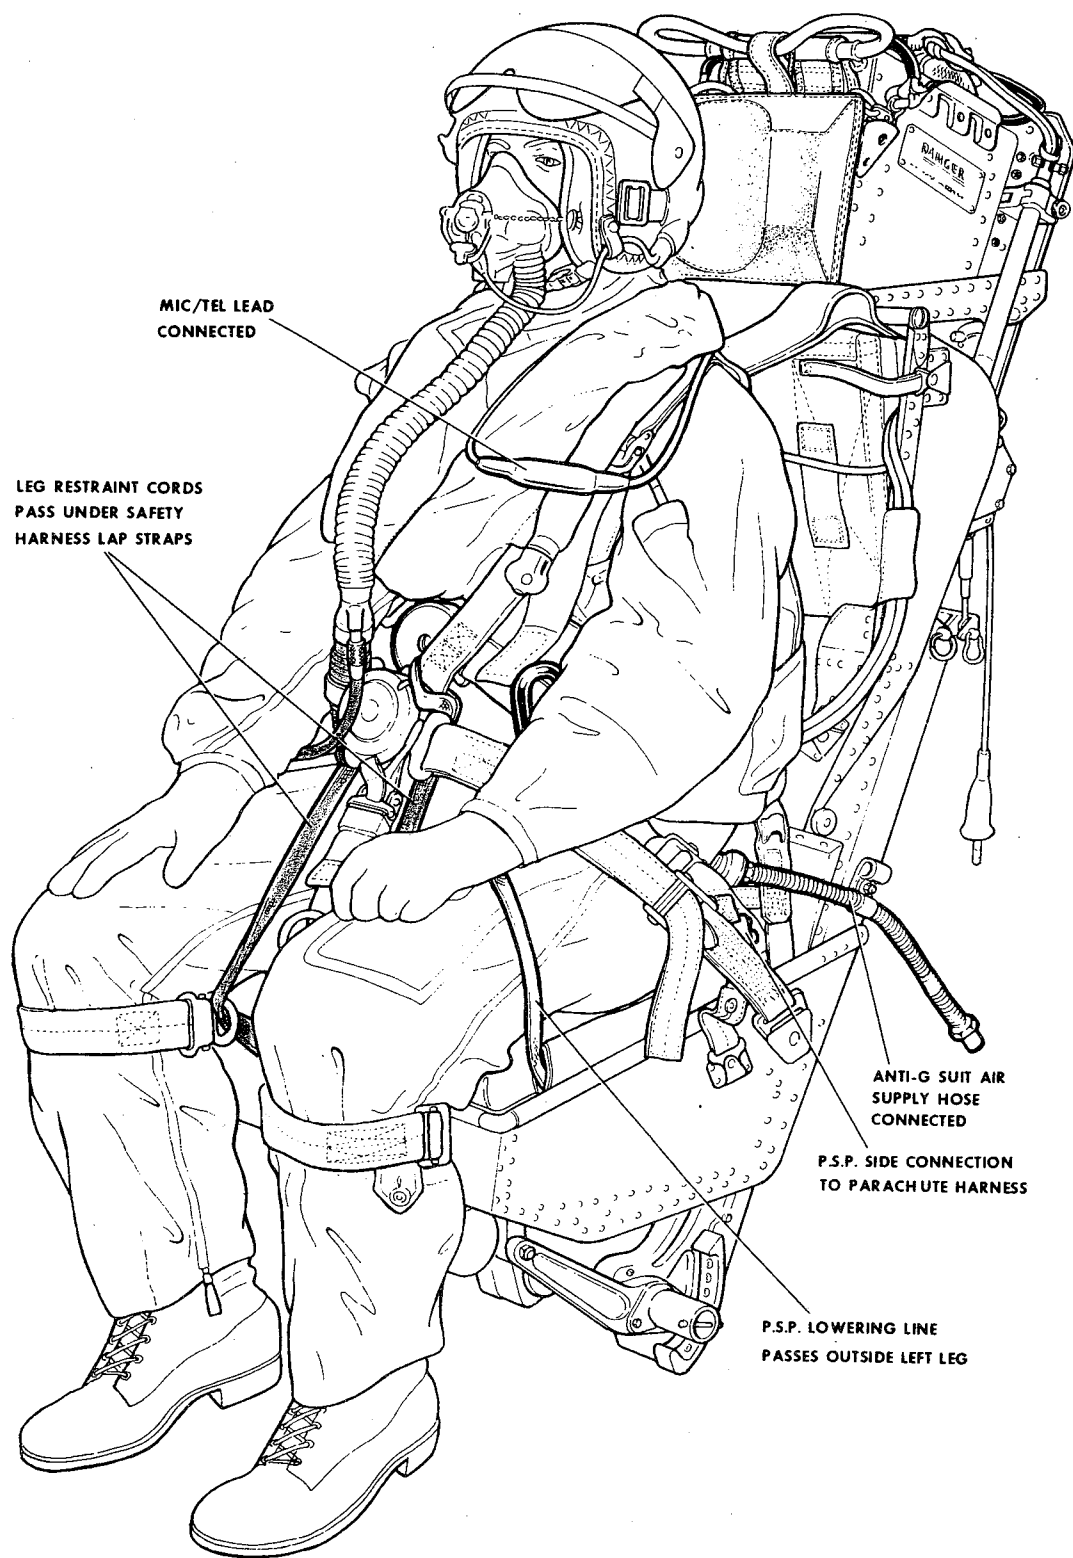

Fig. 7 Seat occupied (2)
(4) Connect the personal survival pack lowering line to the life preserver, ensuring that the quick-release coupling is below the level of the parachute harness waist belt and that the line passes outside the left leg as shown in fig.7. Tuck the surplus line between the leg and the side of the seat pan.
(5) Connect the anti-g suit air supply hose to the suit. Route the hose outside the straps, (fig.7).
(6) Connect and tighten the parachute harness, ensuring that the shoulder straps pass under the folds of the life preserver stole and that the quick-release fitting is positioned as high as possible compatible with comfort.